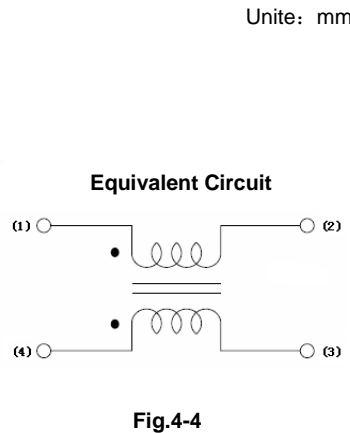

Fig.4-4
- c) Equivalent circuit: See Fig. 4-4.